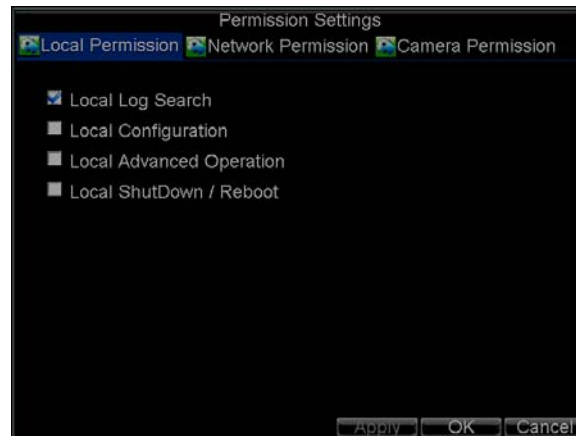

Figure 6. Permission Settings Menu
6. Select the *Permission* button to enter the Permission Settings menu, shown in Figure 6.